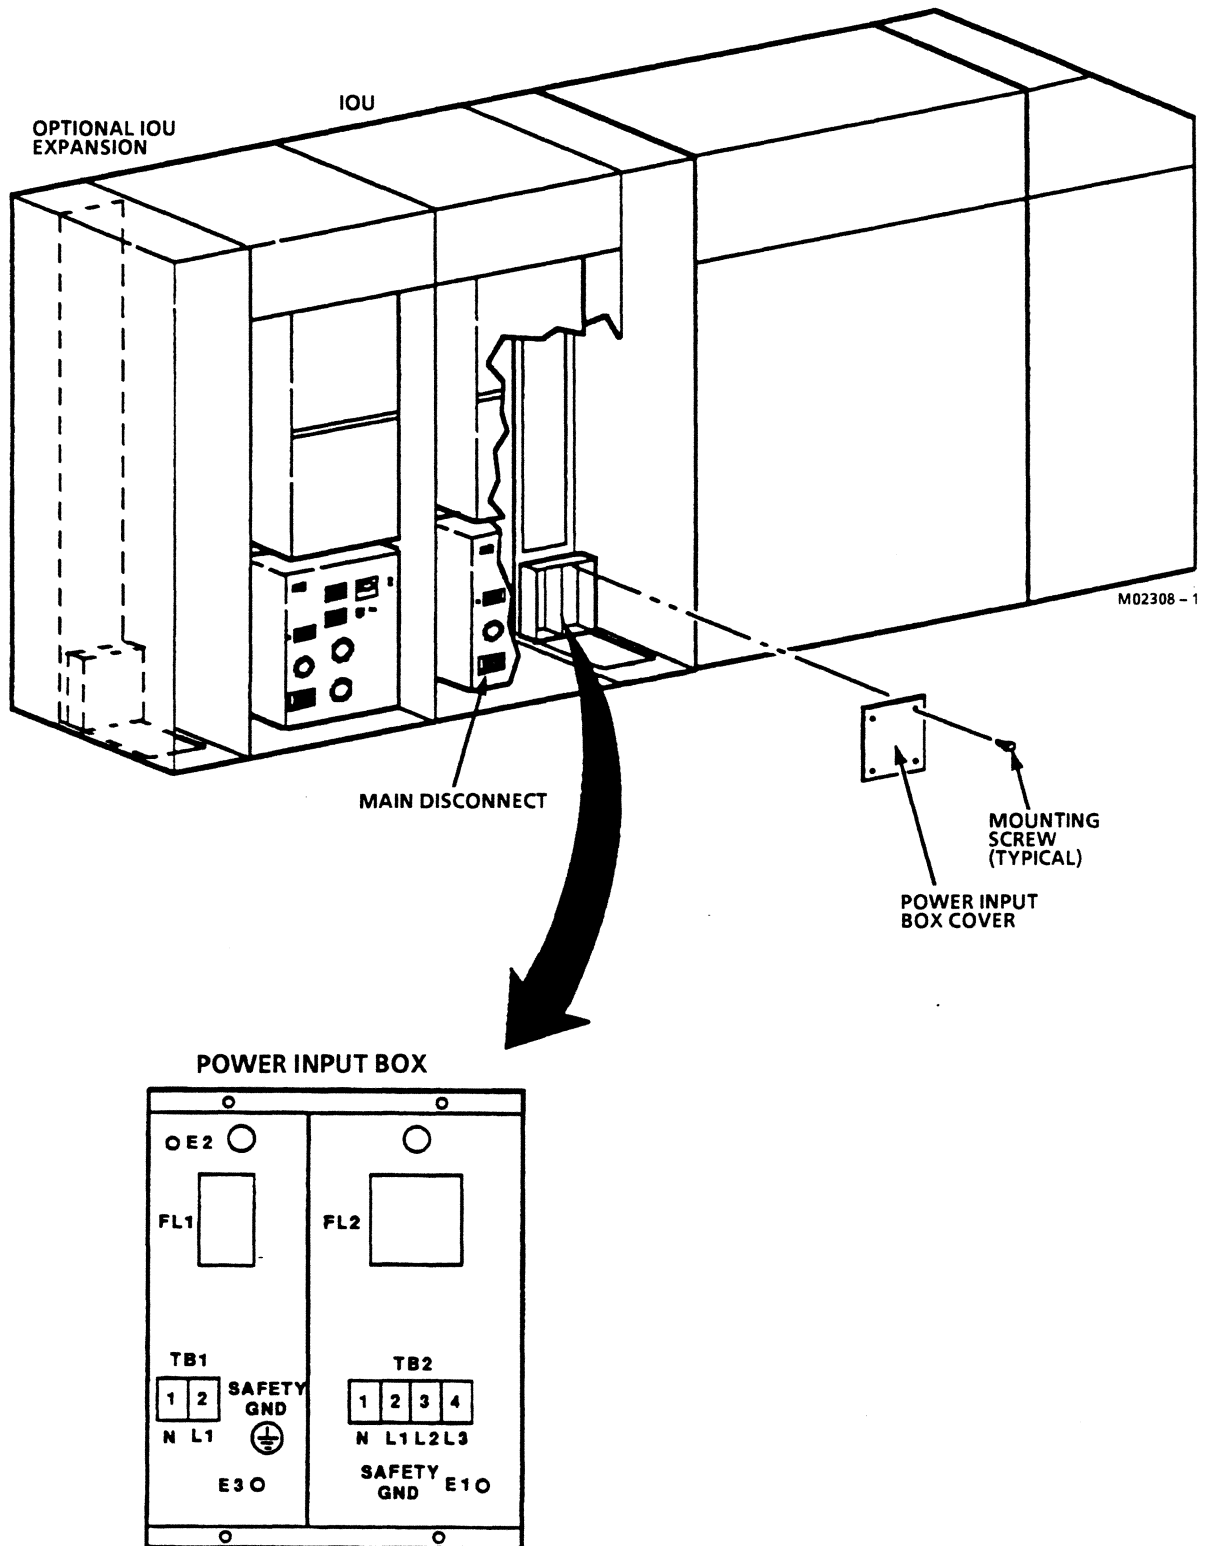

Figure 2-57. Power Connections to IOU
- ___ a. Remove power input box cover (figure 2-57). Install cover in a later procedure.